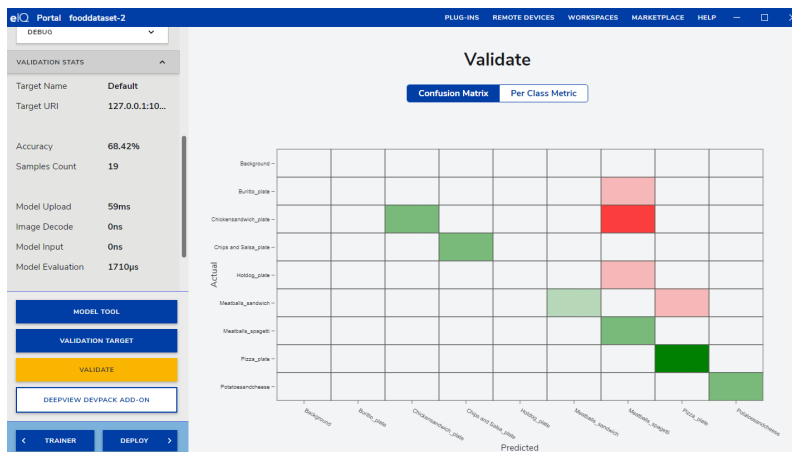
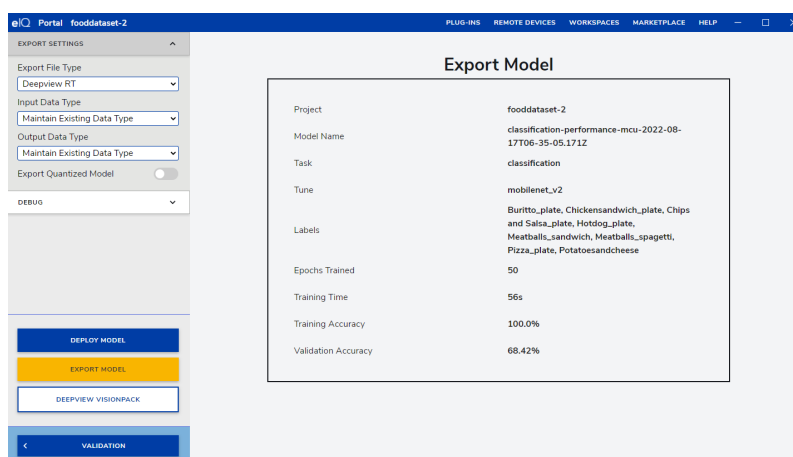

Figure 3.35.: eIQ Portal: validation
Figure 3.36.: eIQ Portal: Deployment
By clicking the VALIDATION TARGET button (see Figure 3.35.), a modal window appears to insert new target devices or select an existing device to perform the validation on. You can also choose to not select a target and validate the model on your local host (your computer) by default.
Clicking the “VALIDATE” button (see Figure 3.35.) starts the validation process.
If you are satisfied with the validation accuracy of your model, you can export it to a highly optimized format capable of running in the selected inference engine. Click the “DEPLOY” button (see Figure 3.35.) to move into the “Export Model” workspace.
1. Go to the “Validation” window (see Figure 3.35.) by clicking the “VALIDATE” button in the “Trainer” menu (see Figure 3.19.).
1. Go to the “Export Model” window (see Figure 3.36.) by clicking the “DEPLOY” button in the “Validation” menu (see Figure 3.35.).